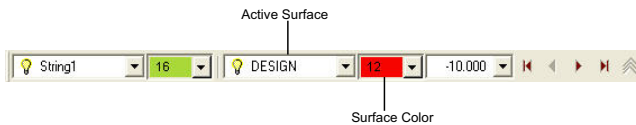

Figure 18-51. Properties Toolbar
1. Define the current surface on the **Properties** toolbar, and select the required cross section in the Cross Section pane (Figure 18-51).